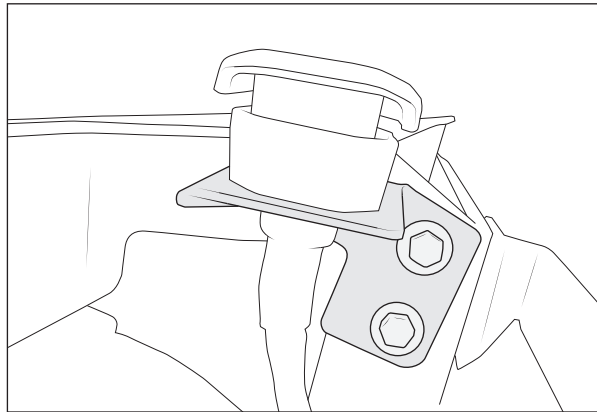

Figure 6
- With the connector assembled to the metal bracket, attach the assembly to the Bumper Center Section as shown in Fig. 6 below, using the two provided M6 hex head screws, M6 washers, and M6 nuts.